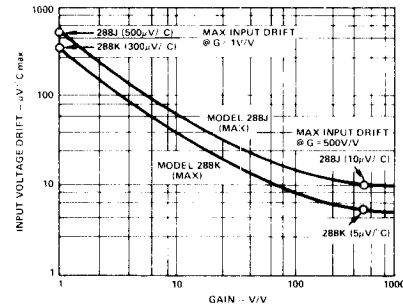

Figure 15. Max Input Offset Voltage Drift vs. Gain
**Input Offset Voltage Drift:** Model 288 is available in two drift selections:  $5\mu\text{V}/^\circ\text{C}$  (288K) and  $10\mu\text{V}/^\circ\text{C}$  (288J)—max, RTI,  $G = 500\text{V}/\text{V}$ . Total input voltage drift is composed of two sources (input and output stage drifts) and is gain dependent. The curves of Figure 15 illustrate the worst case total input drift (RTI) over the gain range of 1 to 1,000V/V.